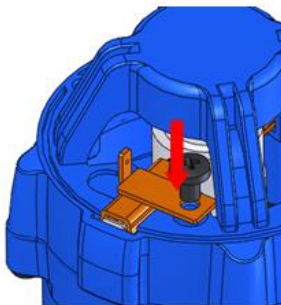

Fig. 24
- Fasten the carbon brush at the middle housing fix hole with screw (Fig. 24).